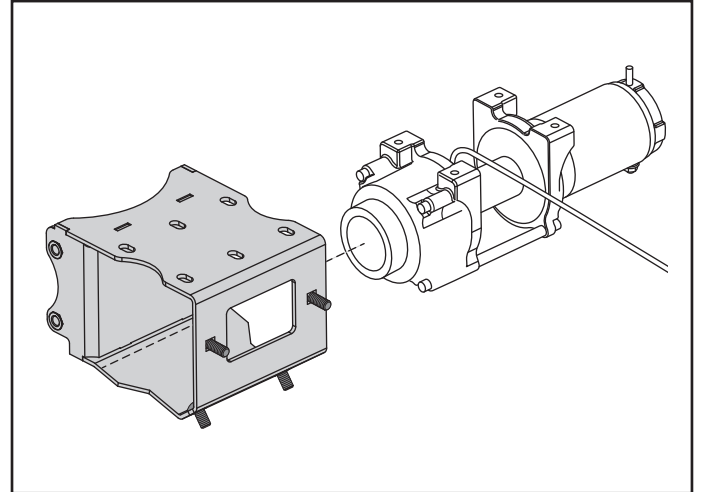

Figure 2.
2. Determine if your winch requires spacers by setting your winch in place in the winch mount (A), as shown in figure 2. Check if winch rope is close to centered in the fairlead opening. Spacers will be used to lower the winch in the winch mount as needed to center the winch rope.